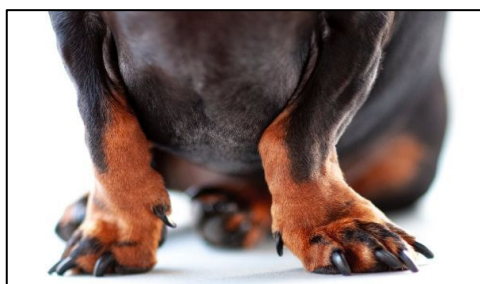

Figure 5
- In chondrodystrophic (curvilinear) breeds, vertical alignment may not be achievable due to structural characteristics. In such cases, the limbs should be positioned as symmetrically as possible (Figure 5).